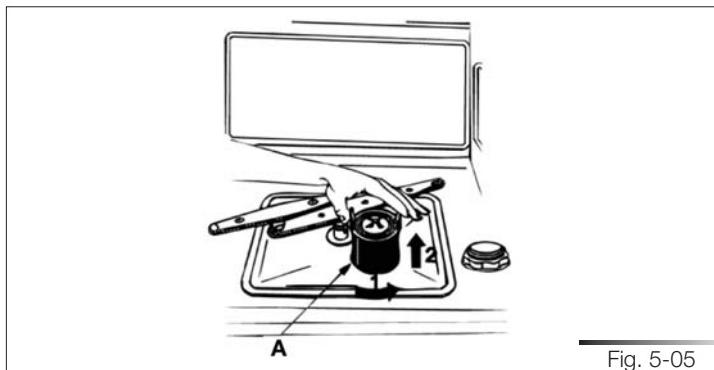

Fig. 5-05
- Periodically inspect the filter unit (ref. A fig. 5-05) and, if necessary, clean it under running water (at room temperature), using a stiff brush. To remove the filter, grip the tabs, turn anticlockwise and lift upwards;
- after cleaning, remount the filter unit, joining the two parts comprising the centre filter by pushing slightly until they click into place; insert the centre filter into the micro-filter (see fig. 5-06). Reposition the filter unit (ref. A fig. 5-05) into its seat, turning it clockwise until it locks.